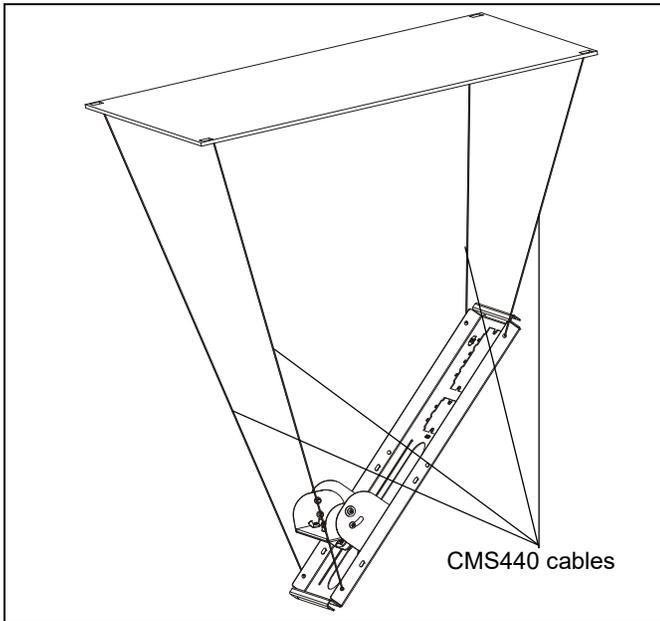
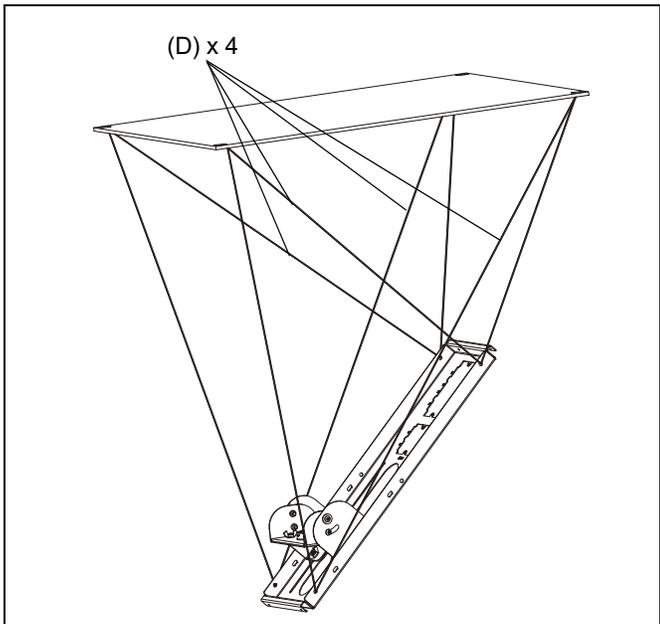

Figure 4
Figure 5
1. Follow CMS440 installation instructions to complete installation to ceiling, using four cables and cable locks used with the CMS440 for the front and rear cables (See Figure 4) and then the four cross cables (D) and four cable locks (E). (See Figure 5)
**NOTE:** The cross cables should install to the front or back of the plate and move to the opposing mounting point on the ceiling. (See Figure 5) and (See Figure 6)